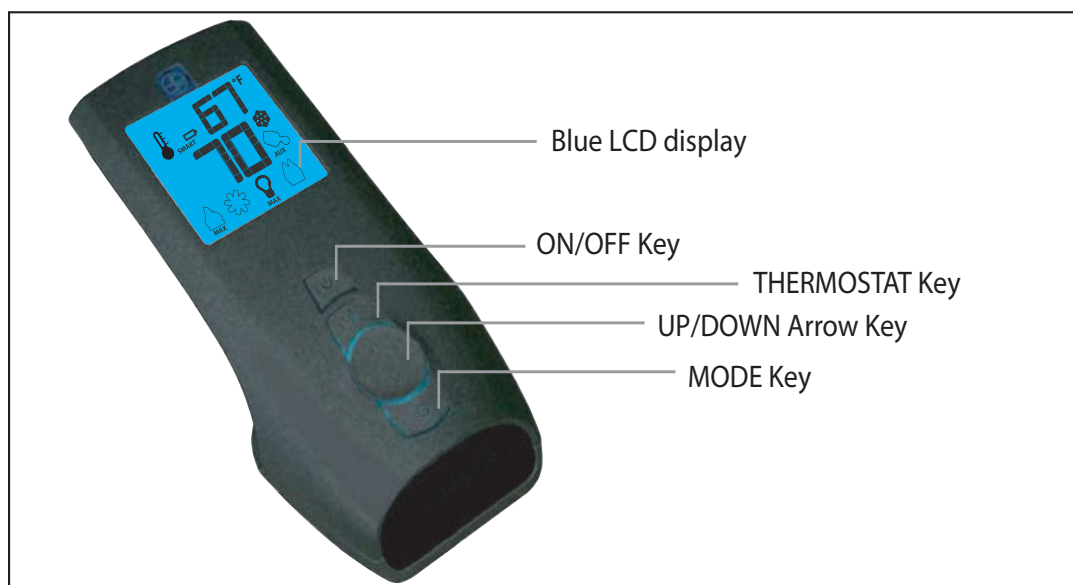
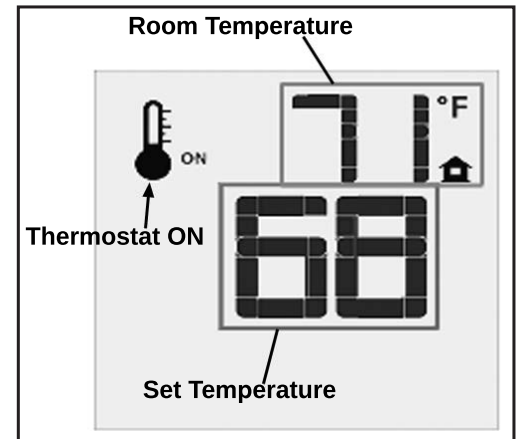
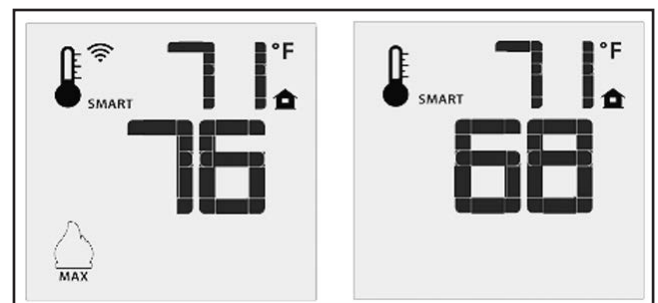
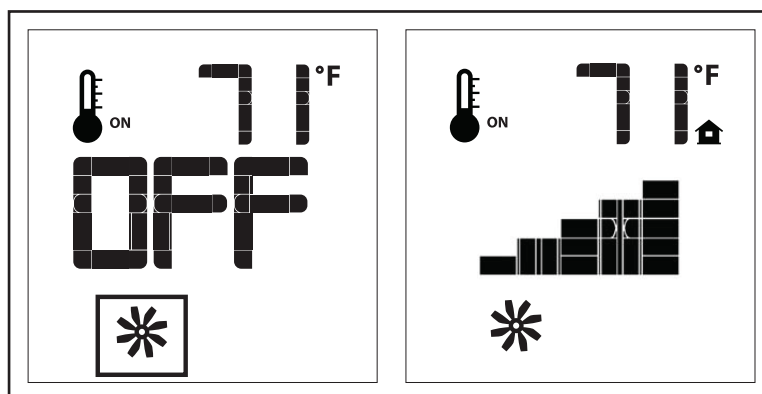

Figure 5: Proflame 2 Transmitter.
Figure 9: Remote Control Displays Set Temperature.
Figure 10: Remote Control's Smart Flame Function.
Figure 12: Fan Control
The Proflame 2 Transmitter is a remote control with a blue backlit lcd display. It uses a streamline design with a simple button layout and informative lcd readout (Figure 5). The Transmitter is powered by three (3) AAA type batteries. A Mode Key is provided to Index between the features and a Thermostat Key is used to turn on/off or index through Thermostat functions (Figure 5 & 6).
Press the ON/OFF Key on the Transmitter. The Transmitter LCD display will only show the room temperature and Icon (see Figure 9). A single “beep” from the IFC confirms reception of the command and both the pilot light (if the unit is not set to continuous pilot) and main burner will turn off.
The Remote Control can operate as a room thermostat. The thermostat can be set to a desired temperature to control the comfort level in a room. To activate this function, press the Thermostat Key (see Figure 5). The LCD display on the Transmitter will change to show that the room thermostat is “ON” and the set temperature is now displayed (see Figure 9). To adjust the set temperature, press the Up or Down Arrow Keys until the desired set temperature is displayed on the LCD screen of the Transmitter.
The Smart Thermostat function adjusts the flame height in accordance to the difference between the set point temperature and the actual room temperatures. As the room temperature gets closer to the set point the Smart Function will modulate the flame down. To activate this function, press the Thermostat Key (Figure 5) until the word “SMART” appears to the right of the temperature bulb graphic (Figure 10). To adjust the set temperature, press the Up or Down Arrow Keys until the desired set temperature is displayed on the LCD screen of the Transmitter.
The E33 comes with a convection fan that can be controlled with the Transmitter. The fan speed can be adjusted through six (6) speeds. To control the fan press the MODE key (Figure 5) to index to the fan control icon (Figure 12). Use the UP/DOWN arrow keys to turn on, off, or adjust the fan speed (Figure 12). A single beep from the IFC will confirm the command has been received